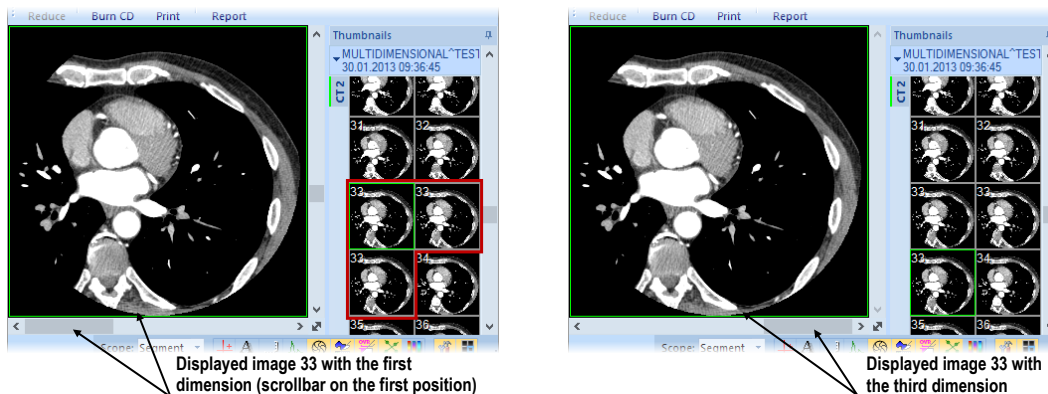

Figure 130 – Displayed image with the first and the third dimension in the current view
- Move to the image with the next/previous dimension that has the same position in the series as the image in the current view, by scrolling with the mouse wheel while pressing down the ALT key or using the horizontal scrollbar (see Figure 130).